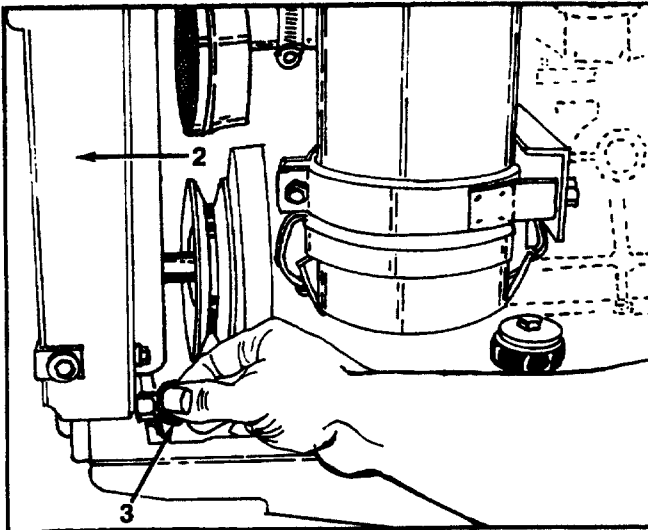

FIGURE 2.
3. Drain the radiator and open the drain cock. See figure 2.